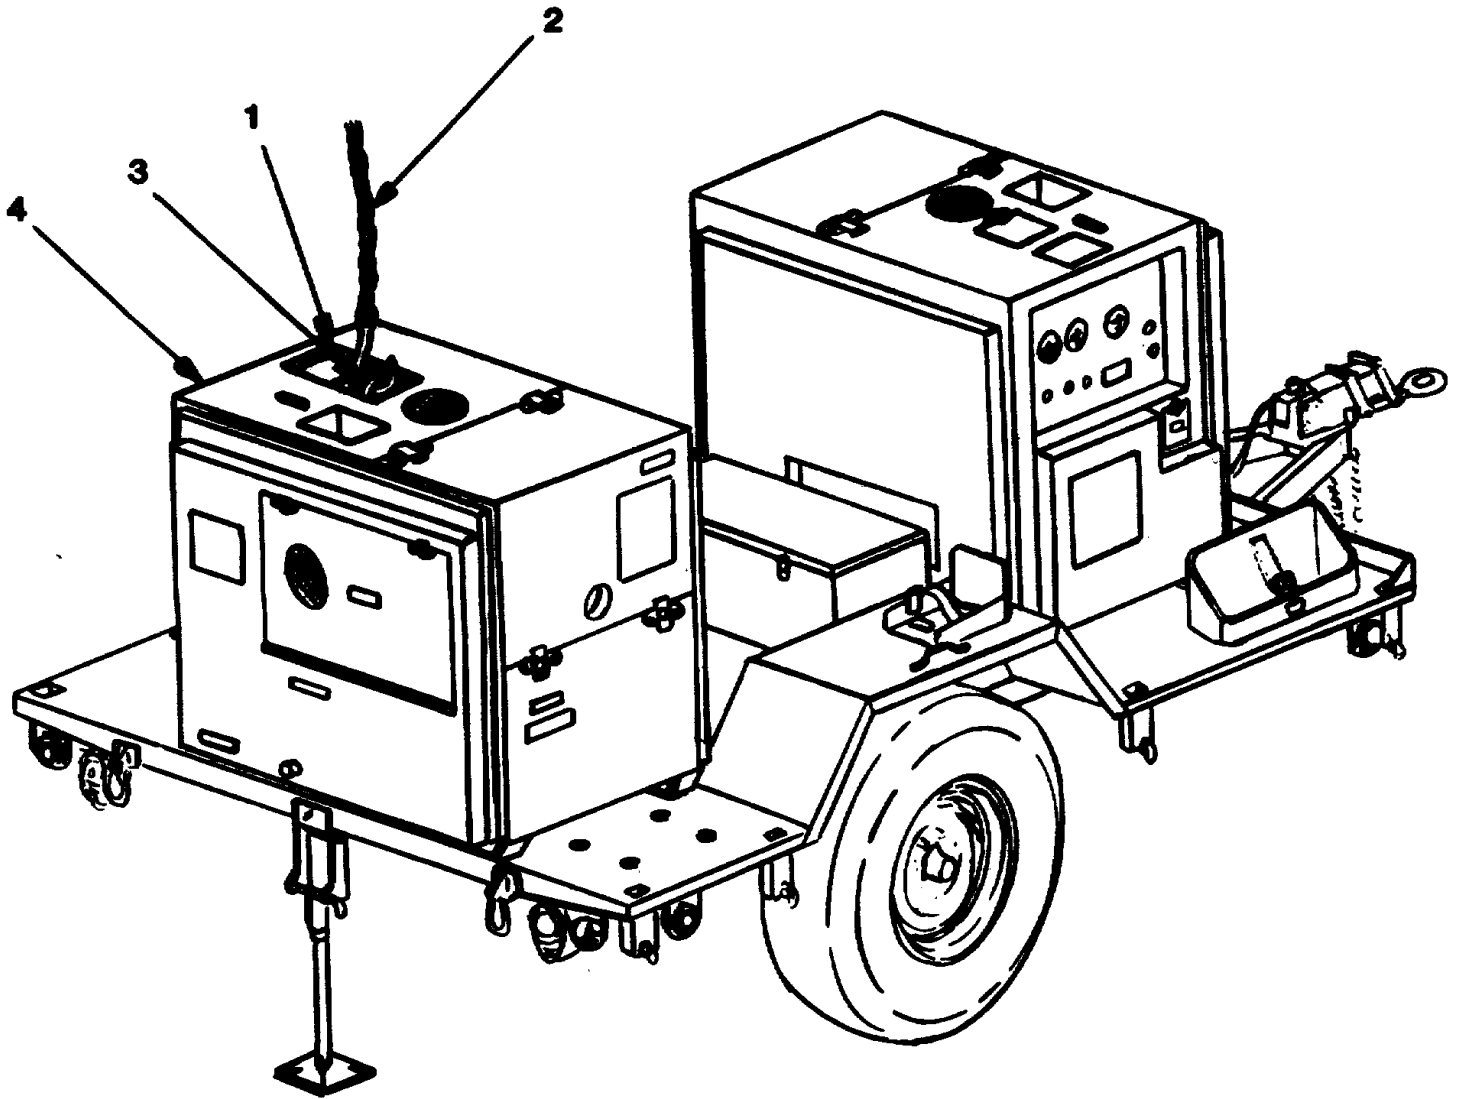

Figure 5-2. Lifting Generator Set from Trailers.
- (8) Open lifting eye access door (1, figure 5-2) and attach lifting equipment with a minimum lifting capacity of 1500 lb (2) to lifting eye (3) on top of generator set (4) and remove generator set from trailer.
- (1) Open lifting eye access door (1, figure 5-2) and attach lifting equipment with a minimum lifting capacity of 1500 pounds (2) to lifting eye (3) on top of generator set (4) and lift generator.